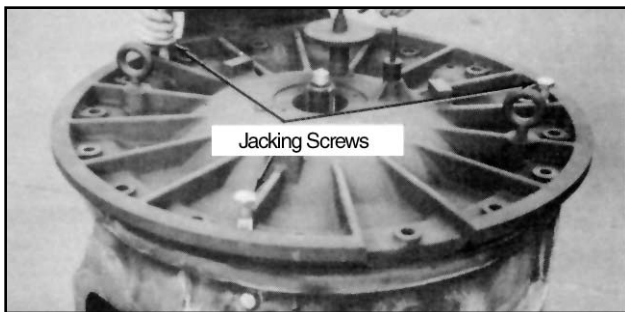

Figure 15
- Insert three cap screws into the tapped holes provided in the cover, Figure 15, and jack the cover from the inner case.